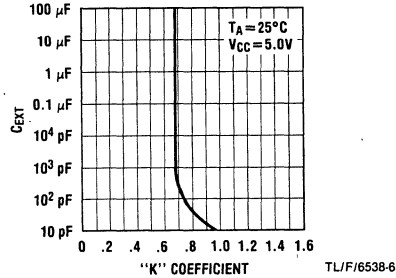

FIGURE 5
6. The "K" coefficient is not a constant, but varies as a function of the timing capacitor C_X. Figure 5 details this characteristic.